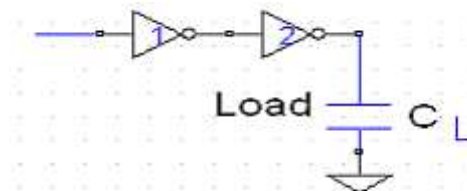

Figure 4
4. Two nMOS inverters are cascaded to drive a capacitive load $C_L = 16 \square C_g$. Calculate the pair delay (V_{in} to V_{out}) in terms of τ for the inverter geometry indicated in figure 4. What are the ratios of each inverter? If strays and wiring are allowed for, it would be reasonable to increase the capacitance to ground across the output of each inverter by $4 \square C_g$. What is the pair delay allowing for strays? Assume a suitable value for τ and evaluate this pair delay. [16]